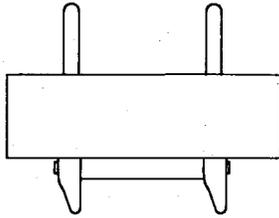

Fig. 2—KS-19341-Type Connector
2.02 *KS-19341, L1 Through L8*: The KS-19341-type (Fig. 2) are miniature, polarized, multicontact, male connectors consisting of a rectangular block of insulating material equipped with gold-plated, free floating terminals. They mate with the KS-19342 connectors. For more information, see Table A.